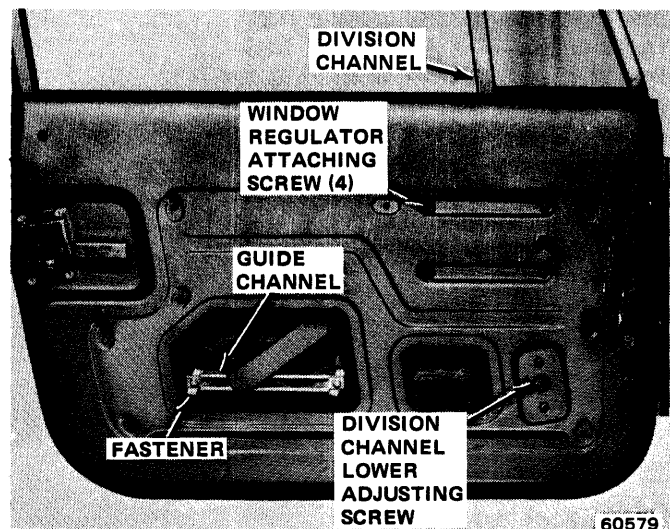

Fig. 15-1 Door Glass Replacement—CJ
(4) Remove door trim panel and water shield.
(5) Loosen division channel lower adjusting screw and move division channel fore or aft to obtain the desired door glass operation (fig. 15-1).